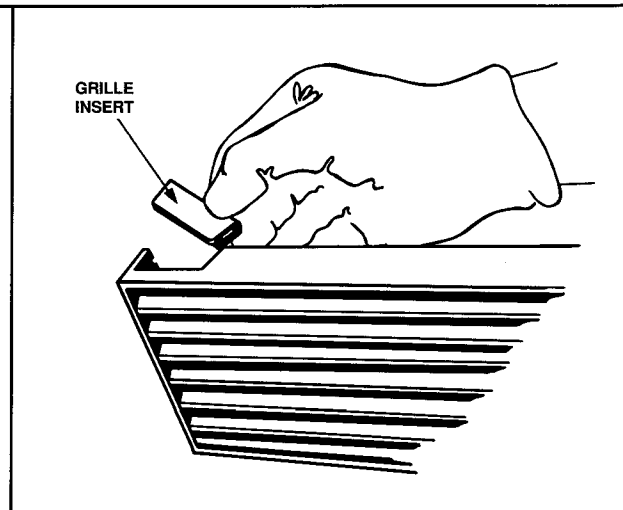

Figure 50
a. Slip grille insert out from left side and replace on right so that left-handed opening doors can operate with grille in place. See Figure 50.